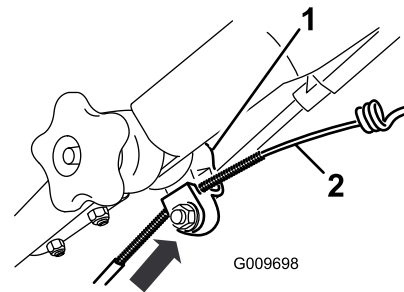

Figure 51
**Note:** You can place a ruler against the upper side of the black cable mount and measure how far the upper end of the cable jacket moves (Figure 51).